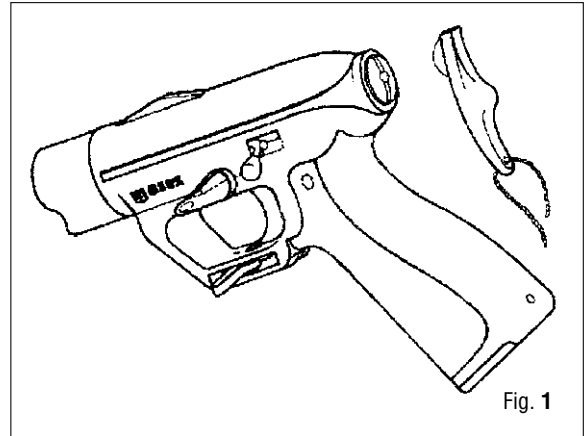

Fig. 1
1. Remove protective cover (6) (if any) from head (1-2-3-5).
2. Unscrew inlet cap (33) using the special loader (Fig. 1) [not available in North America] or 6 mm. Allen wrench.
ALWAYS EXHAUST ALL AIR FROM THE SPEARGUN WITH THE POWER ADJUSTMENT LEVER IN THE MAXIMUM "HIGH" POWER POSITION BEFORE PERFORMING ANY MAINTENANCE OR REPAIRS REQUIRING DISASSEMBLY (FIG. 1). FAILURE TO EXHAUST ALL AIR FROM THE SPEARGUN IN THE MAXIMUM "HIGH" POWER POSITION CAN CAUSE PARTS TO BE EXPELLED FROM THE SPEARGUN AT HIGH VELOCITY WHICH MAY CAUSE SERIOUS INJURY OR DEATH.